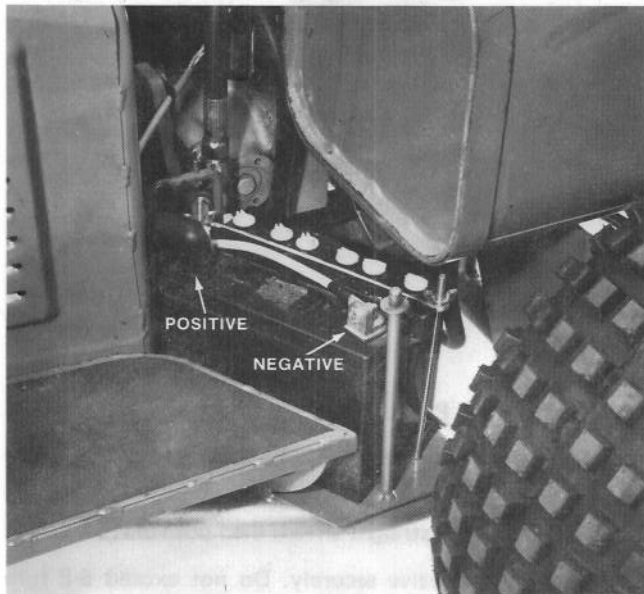
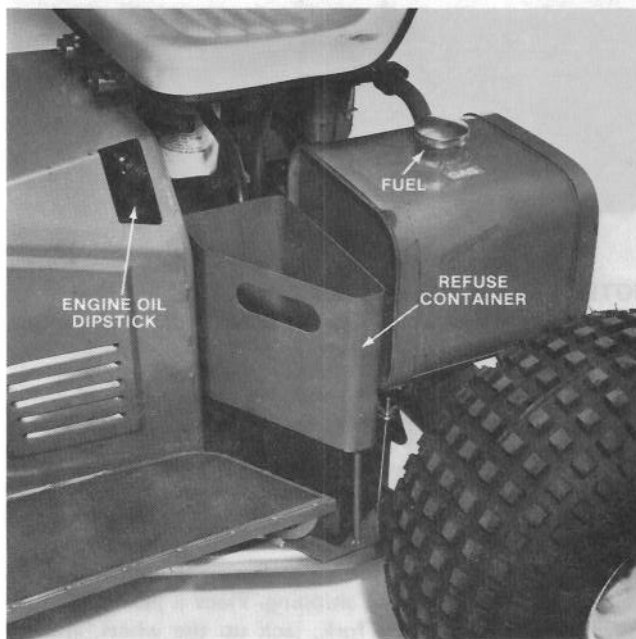

Figure 4
Figure 5
1. Set the battery in place, with the negative (—) terminal to the outside (Fig. 4).
5. Install the battery clamp and secure with the rods and wing nuts (Fig. 4).
NOTE: The rods must be installed so the wing nuts will be down (Fig. 5). This is necessary to provide clearance for the refuse container which mounts to the frame over the battery. Check the wing nuts occasionally to be sure they have not worked loose and fallen off.
1. Snap the refuse container (Fig. 5) onto the frame (Fig. 4) over the battery.
2. The engine is shipped with oil in the crankcase. Check the oil and replenish if necessary to bring the level to the "FULL" (F) mark on the dipstick. **DO NOT OVERFILL** (Fig. 5).
1. Fill gasoline tank with a fresh supply of unleaded gasoline (Fig. 5).